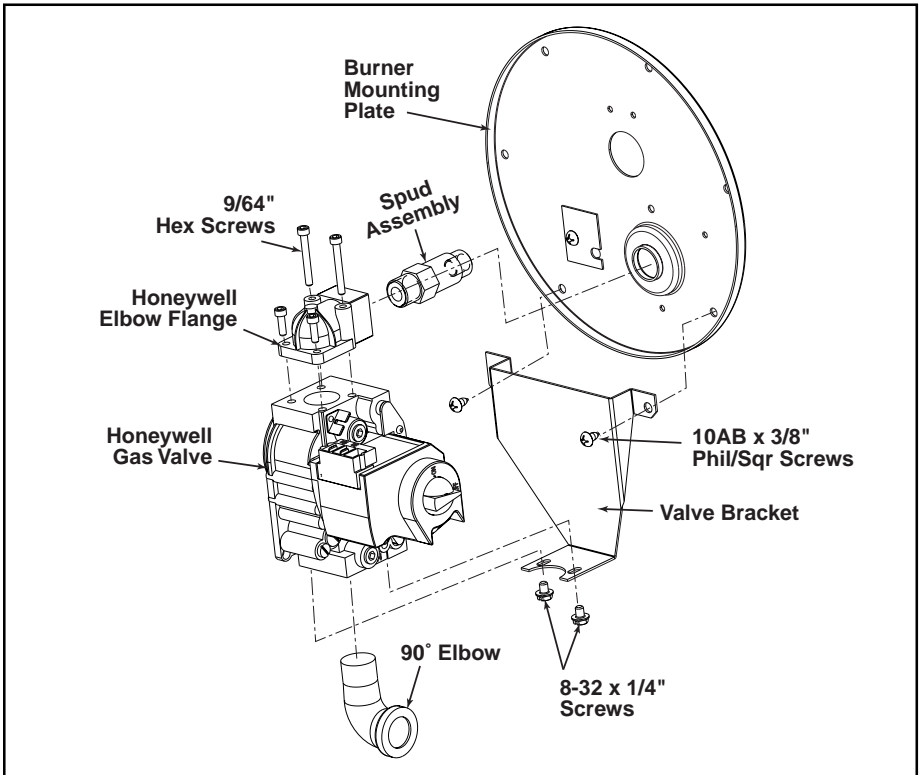

Figure 1. Burner Assembly
5. Plug the screw hole with the screw removed in step 4 (See Figure 1).
11. Mount the gas valve bracket on the inlet of the gas valve using the two 8-32x1/4 screws, as shown in Figure 1.
12. Remove the two screws from the burner plate as shown Figure 1.